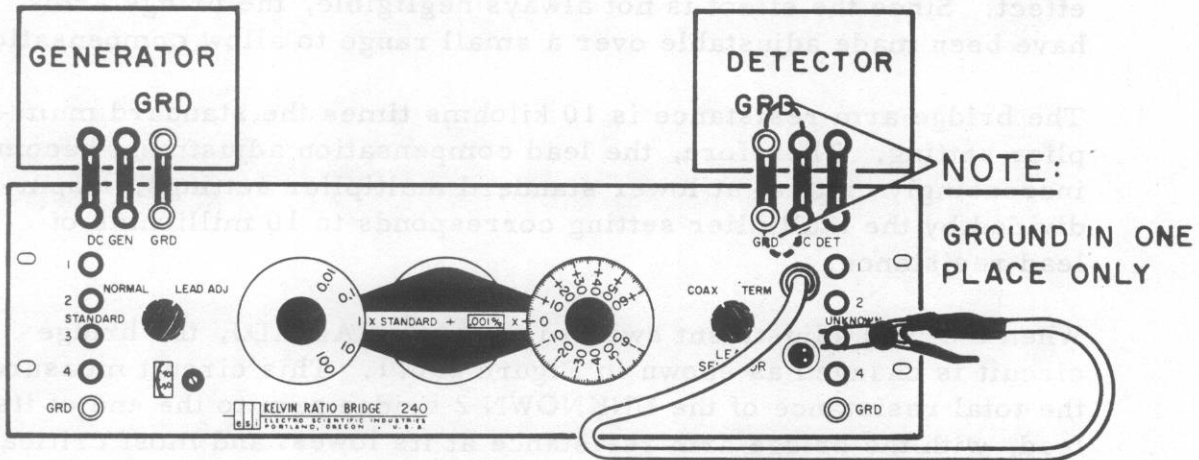

FIG. 2.6.2
1. Connect the Kelvin Klip from the upper lead to UNKNOWN 3, as shown in Fig. 2.6.2.